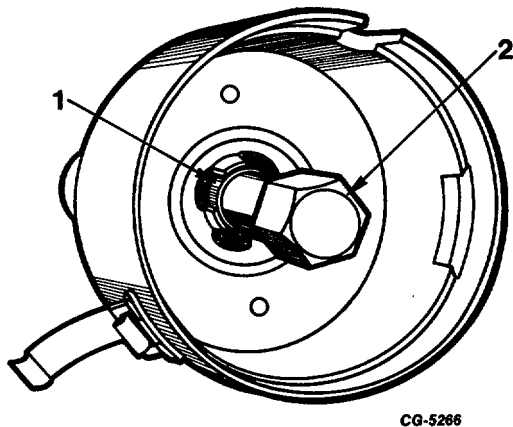

Fig. 25 Bushing Remover SE-1955-5 Installed in Upper Bushing
3. Install bushing remover SE-1955-5 in upper bushing (Figure 25).